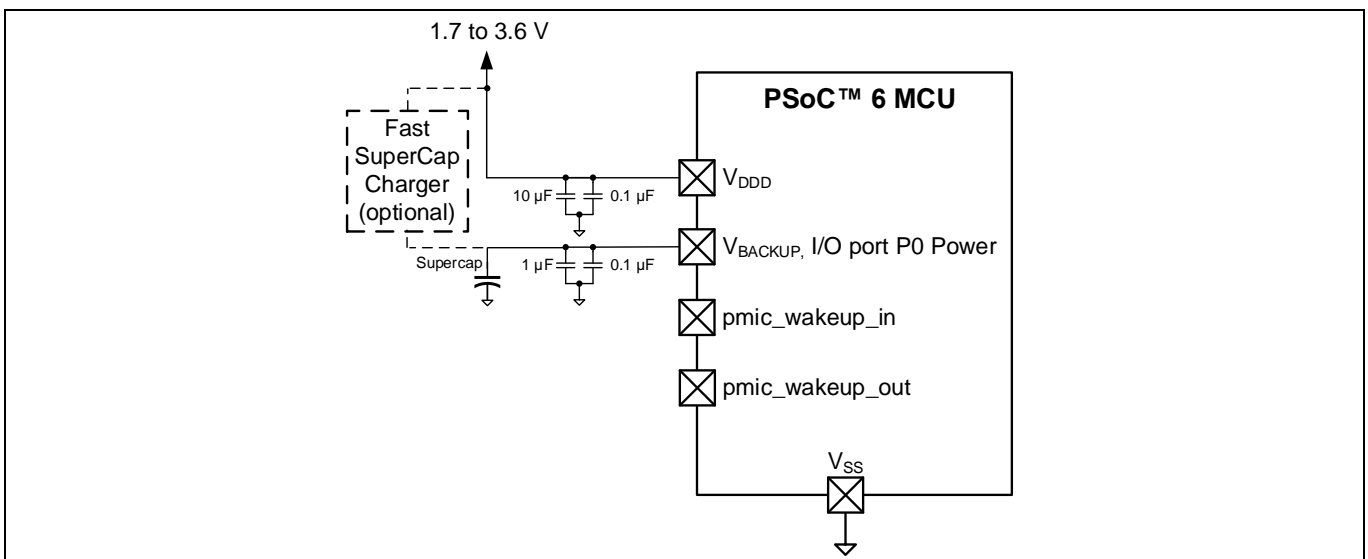

Figure 15 Backup domain supercapacitor connection
2. **V_{BACKUP} powered by supercapacitor** – When a supercapacitor is used as the V_{BACKUP} supply as shown in Figure 15, there are two options for recharging it. By calling the `Cy_SysPm_BackupSuperCapCharge()` PDL function, the internal charge circuit is enabled any time the V_{DD} supply is selected as the active V_{DDBAK} supply.